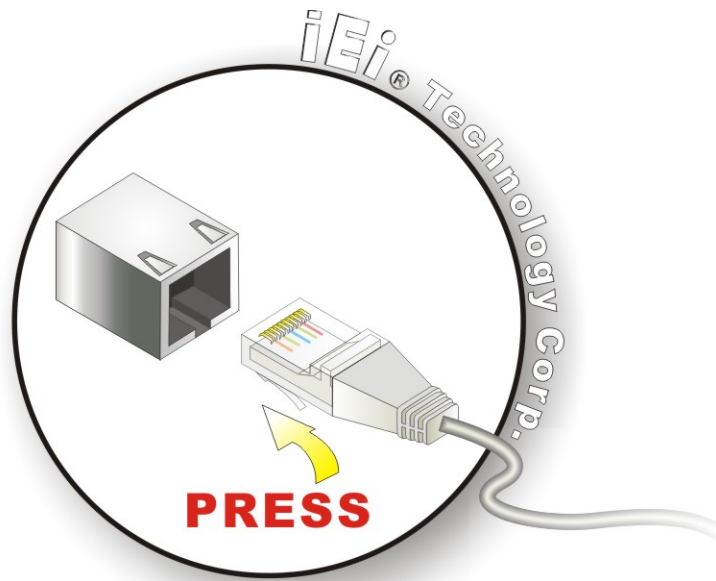

Figure 5-15: LAN Connection
Step 2: **Align the connectors.** Align the RJ-45 connector on the LAN cable with one of the RJ-45 connectors on the WAFER-CX700M. See **Figure 5-15**.